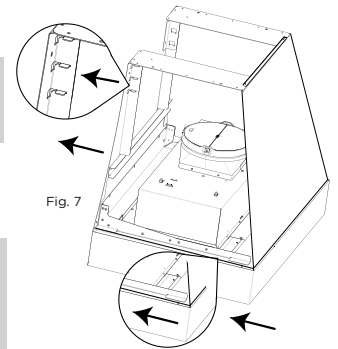

Fig. 7
14. Lift the Torino to the height of the hood and slide it back straight up to the bottom towards the wall. (Fig. 7)
NOTE: Make sure that the flange of the Torino fits into the groove of the horizontal bracket (Fig. 7).